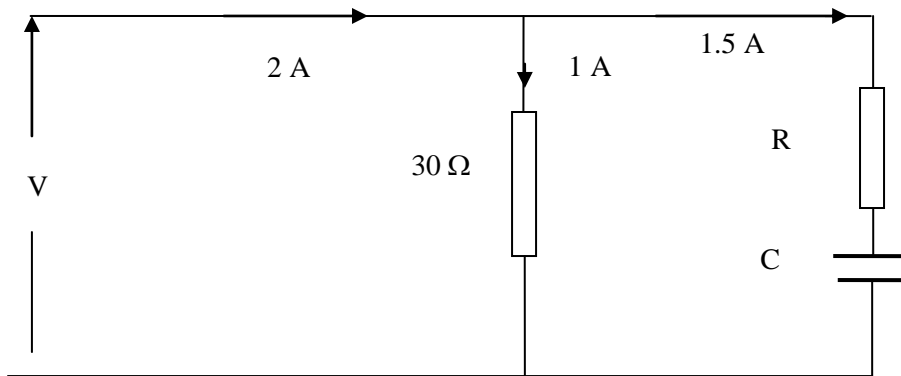

Fig Q4
- (b) the time for the capacitor to become fully charged; (2)
- (c) the time taken for the capacitor to charge to  $12\ \text{V}$ ; (3)
- (d) the voltage across the capacitor after  $25\ \text{ms}$  of charging; (3)
- (e) the peak discharge current; (2)
- (f) the discharge current after  $5\ \text{ms}$ ; (2)
- (g) the voltage across the capacitor after  $5\ \text{ms}$  of discharge. (2)
- (a) Plot a dissipation curve of  $16\ \text{Watts}$  on the characteristics. (6)
- (b) Determine, by superimposing a suitable load line on the characteristics, the minimum safe value of collector load resistance which may be used with a supply voltage of  $12\ \text{V}$ . (6)
- (c) Determine from the characteristics the variation in collector current when a signal of  $\pm 40\ \text{mA}$  is applied to the base if the bias is fixed at  $60\ \text{mA}$ . (4)
4. The circuit shown in Fig Q4 is supplied from a 400 Hz a.c. supply.